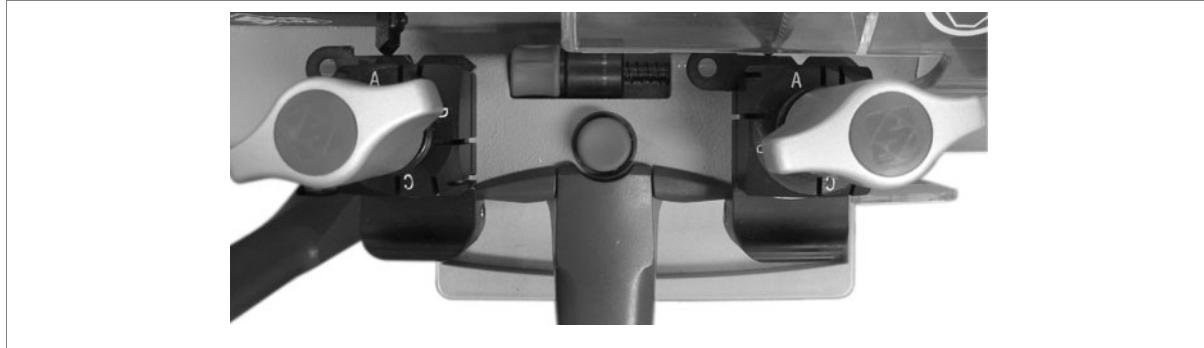

Fig. 17
- 5) Take the flat part of the key into contact with the cutting tool and tracer point (fig.17).